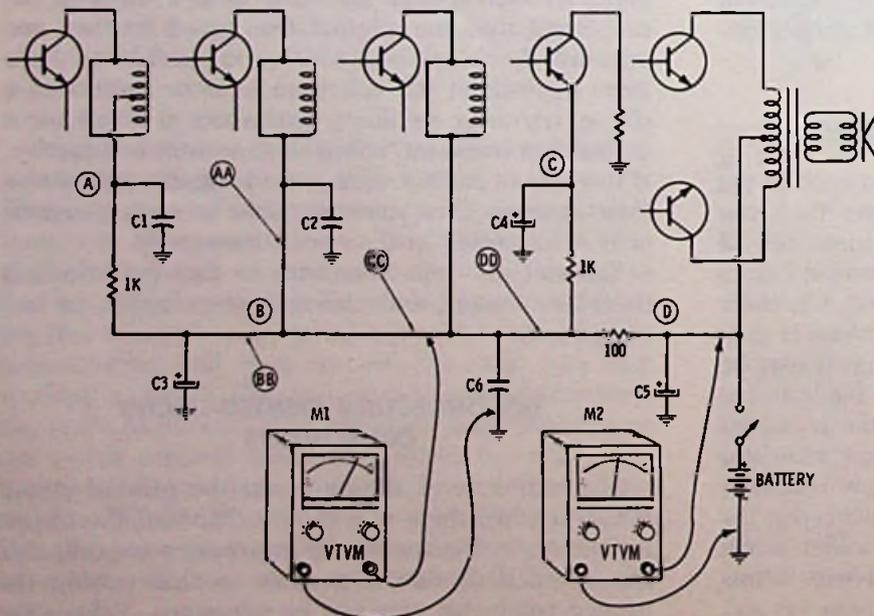

Fig. 14-6. Troubleshooting in dc supply circuit.
example shown in Fig. 14-6, suppose that meter M2 reads about 110 ohms, then when the meter is moved to the M1 position it reads about 10 ohms. (In each case, the ohmmeter leads should be reversed and another reading taken to make sure that some transistor or diode is not causing the low reading.) The two readings indicate that the trouble is on line (B) and not on line (D) (in this case the trouble is a virtually shorted dc supply line which should read at least 1000 ohms or more to ground when the on-off switch of the radio is turned off). At this point, though, it is diffi-
testing. Where should the printed circuit be cut in Fig. 14-6? It depends to some extent on experience as to which of these capacitors is the most likely one to short and it also depends on the layout of the printed circuit—but in Fig. 14-6 you can make a choice between AA, BB, or CC. There is no use in cutting at point DD, since all the capacitors are still in the circuit on line B. If experience indicates on a particular model that C2 is the most likely problem, then cutting the circuit at AA would be the logical first place. But, in most cases it will be the electrolytic capacitor which will be defective; and so, if you have no experience with a particular model, a cut at BB would be the logical first choice. If you do cut the printed circuit at BB and the ohmmeter on line B shows that the resistance has gone up significantly, then you can be sure that C2 and C6 are NOT at fault. Cutting the line at B does NOT absolutely prove that C3 is at fault, but it does prove that either C3 is at fault, or, if something else is at fault it is on the same part of the line as C3.
In Fig. 14-6, suppose that meter M1 reads around 100 ohms, and meter M2 reads near zero ohms—could the fault be (so far as the low-resistance reading is concerned) on line B? The answer is no. The meter on line B is reading a low resistance through the 100-ohm resistor in the supply line, indicating a near short on line D.